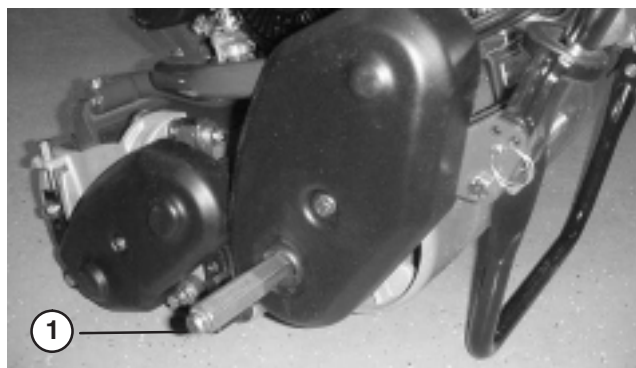

Figure 6
2. Apply Anti-Seize lubricant to the exposed ends of axles and slide wheel onto axle (Fig. 6).